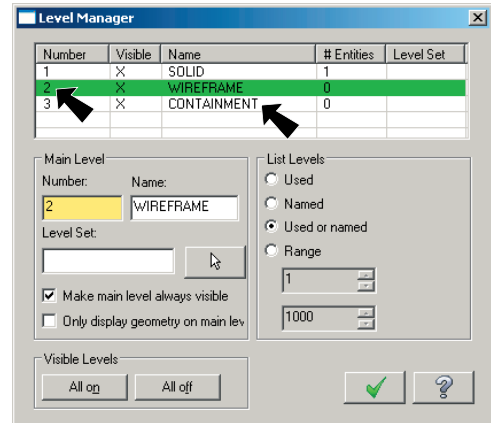

Fig. 13
- Step 5. Continue and create **CONTAINMENT** Level as shown here and Fig. 13
- Fig. 13.